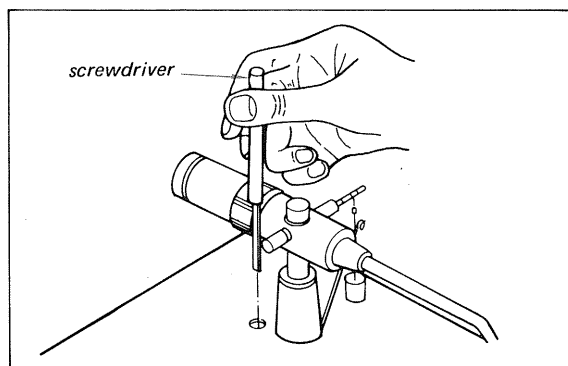

Fig. 3-8. Stylus set-down adjustment
1. The correct position for stylus set-down is 1.5 mm ( $1/16$  inch) in from the edge of the record. The position is adjusted by turning the set-down adjustment screw through the opening located near the tone-arm base as shown in Fig. 3-8. This screw appears only when the tone-arm is placed on its rest. The adjustment is performed with any records on the turntable.